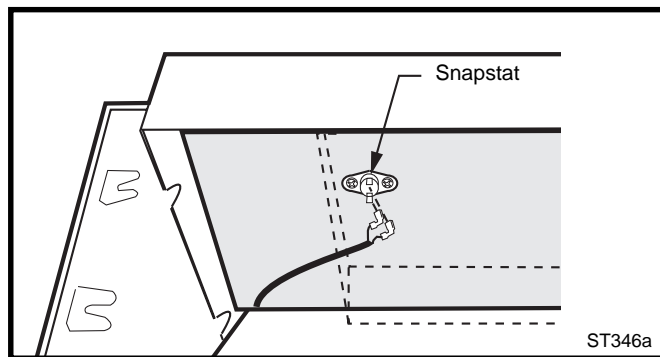

Fig. 11 Attach snapstat to inner shroud.
4. Secure the snapstat to the upper middle of the inner shroud. (Fig. 11) NOTE: The snapstat location may be reached through the front of the stove between the top and the firebox or you may loosen the four screws holding the rear shroud in place. Be sure to secure shroud back into place before operation.